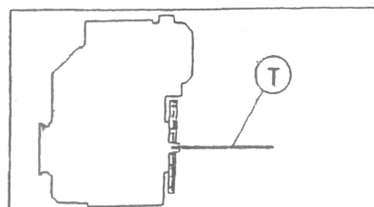

Fig.1
1. Clamp the flange on the motor drive (fig.1)
2. Apply the rod-T-for the axial clamping of the rotor and screw it tight on the engine shaft (fig. 1)